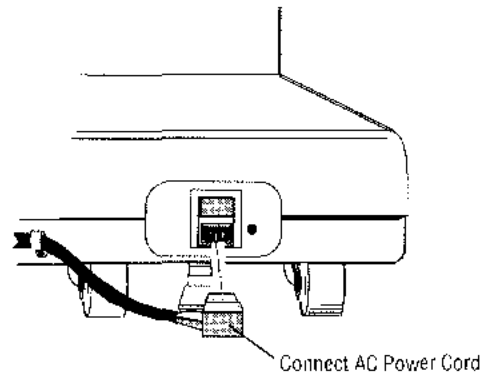

Figure 3-1. Power Cord Connection (Electric Table Only)
2. Connect female end of 20' (6-meter) long power cord to male connector located on the narrow end of table base (can only be connected one way). See Figure 3-1.